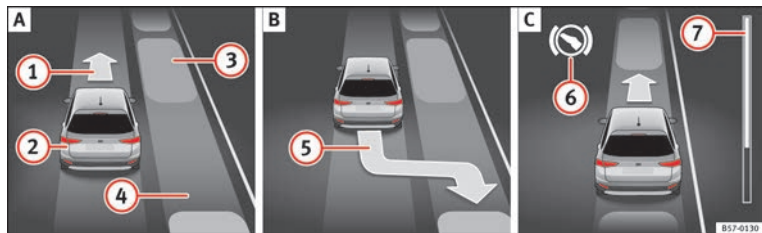
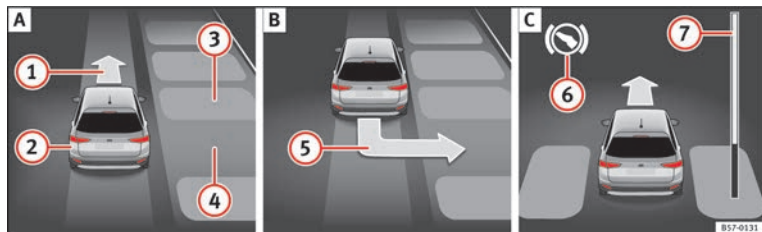

Fig. 205 On the instrument panel display: parallel parking. **A** Finding a parking space. **B** Parking position. **C** Manoeuvring.
Fig. 206 On the instrument panel display: perpendicular parking. **A** Finding a parking space. **B** Parking position. **C** Manoeuvring.
Key to **Fig. 205** and **Fig. 206**:
» **Fig. 205** ⑦ and » **Fig. 206** ⑦ on the screen of the instrument panel displays the relative distance to be covered. The greater the distance, the fuller the progress bar. When driving forward, the content of the progress bar decreases upwards, and when reversing, it decreases downwards.
2.	Look at the display on the instrument panel to see if the space has been detected as “appropriate” and if the correct position for parking has been reached » Fig. 205 [B] or » Fig. 206 [B]. The space is considered “appropriate” if the display on the instrument panel shows the message to park [5].
5.	Please note the following message: Active automatic steering. Watch out around you. While you keep watch around you, carefully start accelerating up to no more than 7 km/h (4 mph). During the parking manoeuvre, the system only takes charge of the steering. You, as the driver, have to accelerate, engage the clutch if necessary, change gears and brake. Reverse until the ParkPilot continuous signal is heard. OR: reverse until the instrument panel displays the message to go forwards » Fig. 205 [A] [1] or » Fig. 206 [A] [1]. OR: reverse until the instrument panel displays the message Park Assist finished. The progress bar [7] indicates the distance to cover » page 240.
9.	Go forward until the ParkPilot continuous signal is heard. OR: go forward until the instrument panel display shows the message to reverse. The Park Assist system steers the vehicle forward and back until it centres it in the space » Fig. 205 [C] or » Fig. 206 [C]. For best results, wait at the end of each manoeuvre until the Park Assist system has finished turning the steering wheel.